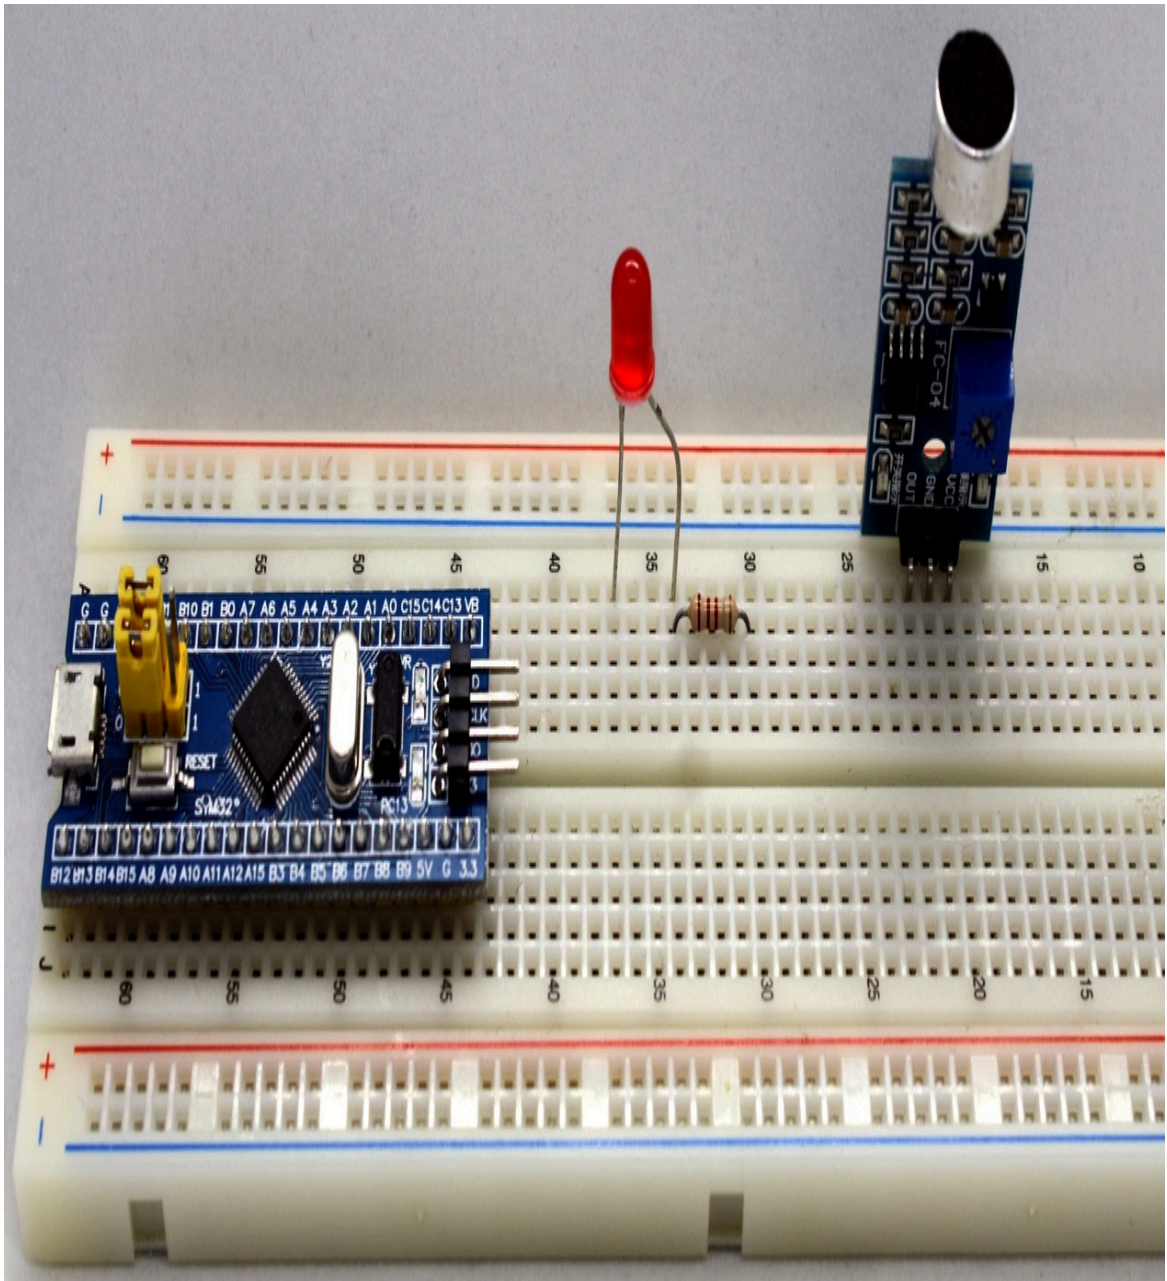

Figure 7.3 – Components on the breadboard
1. In connecting the components, place the electret microphone, the resistor, the LED, and the STM32 Blue Pill on a breadboard with enough space to add the wiring layer, as shown in *Figure 7.3*. The hardware connections for this project are very straightforward: